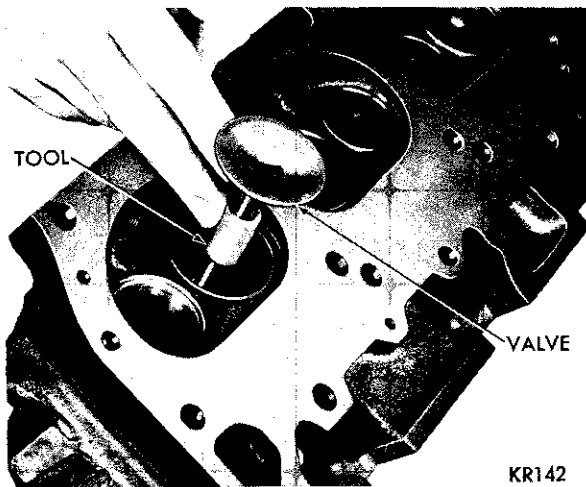

Fig. 9—Installing Tool C-3973
(4) Measure the valve stem guide clearance as follows: Install sleeve Tool C-3973 over the valve stem, as shown in Figure 9, and install valve.